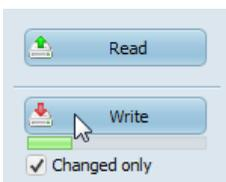

Figure 8.6. Writing changed values of registers to the device
After modify values of selected registers, changes can be saved to the device. This can be done by clicking the **[Write]** button located in the **Read/Write registers (3)** area (Figure 8.6).